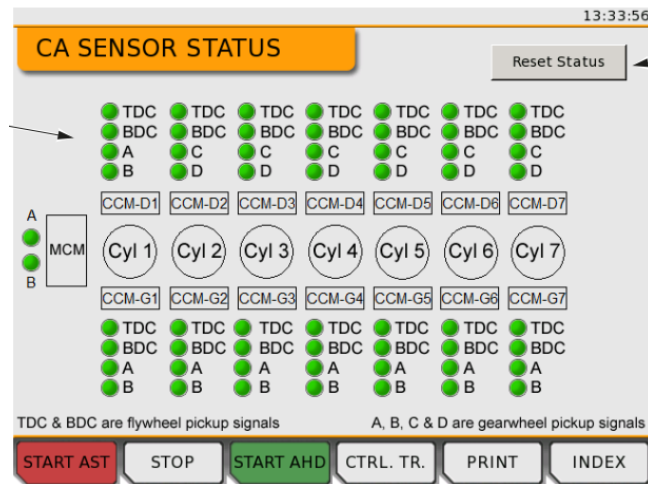

Figure 3-1: LDU (Local Display Unit) Crank Angle (CA) status
Prior to restarting the engine after rebooting the UNIC ECS, it is mandatory to perform at least one full revolution of the engine by using the turning gear. This is to restore the correct Crank Angle (CA). In the respective LDU page the status of the CA system be as shown in Figure 3-1.